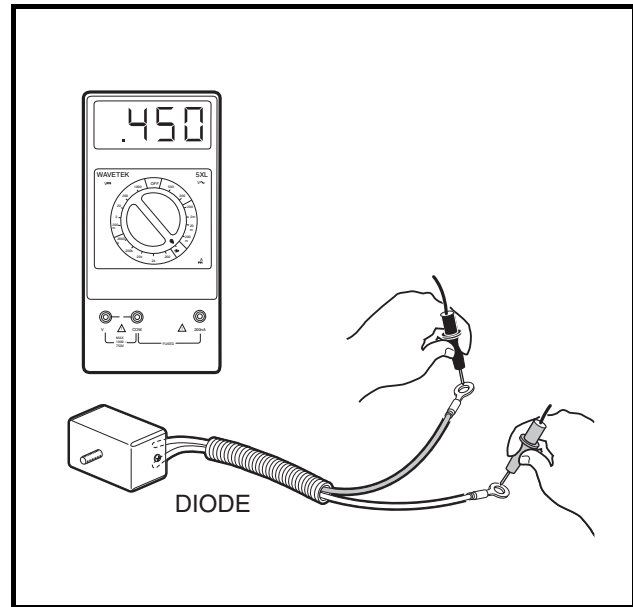

Figure 11-37 Diode Test – Probes Reversed
5. Reverse the multimeter probes and note the reading. With the black (-) probe of the multimeter to the red lead of the diode and the red (+) probe of the multimeter to the white lead, the meter should read approximately 450 mV, however, a range of 400-500 mV is acceptable (**Figure 11-37, Page 11-31**).